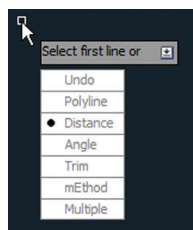

FIGURE 2.26 Displaying a command-line option on the canvas with dynamic input
2. Press the down-arrow key three more times and press Enter to select the Distance option in the Dynamic Input display (see Figure 2.26). Type `1'` (or `30` for metric) and press Enter twice to input equal first and second distances, which are `1'` (or `30` for metric) each.